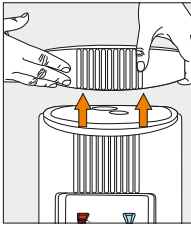
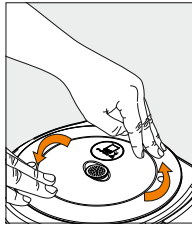
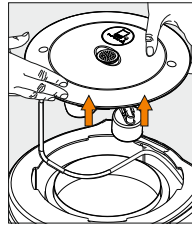
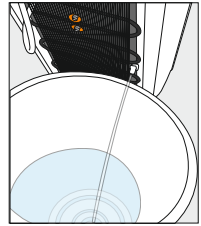

Figure 29
Figure 30
Figure 31
Figure 32
3. Remove the POU Cover (if installed) (Figure 29) Use the fingertips of both hands to press on the POU Lid Assembly and turn counter clockwise till it is free from the cooler opening. (Figure 30, Figure 31) Lift off of the cooler, and set aside. Drain the water from the reservoir and hot tank (Figure 32), remembering to cool and drain hot tank. Allow 1 hour for hot water to cool down.